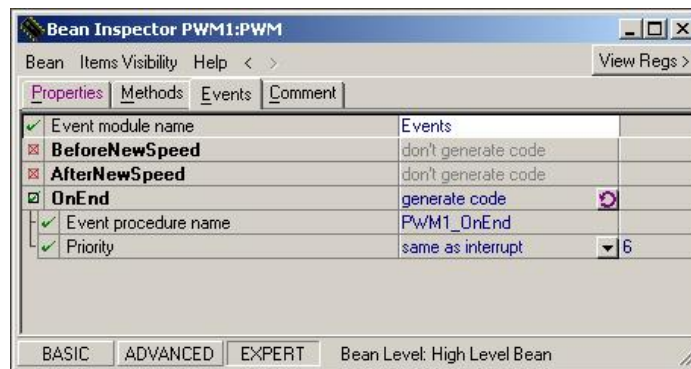

Figure 38. Bean Inspector Window - Events for PWM Bean
6. Set the events configuration for this bean. Select the Events tab in the Bean Inspector window (Figure 38). For the PWM bean the event OnEnd is very important. Once this event is enabled, the PWM completes a cycle.